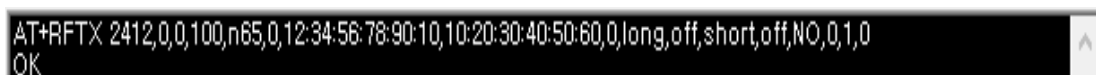

Figure 11. Debug console – Start TX
- When you click the **Start TX** button, the message appears as shown in Figure 11.